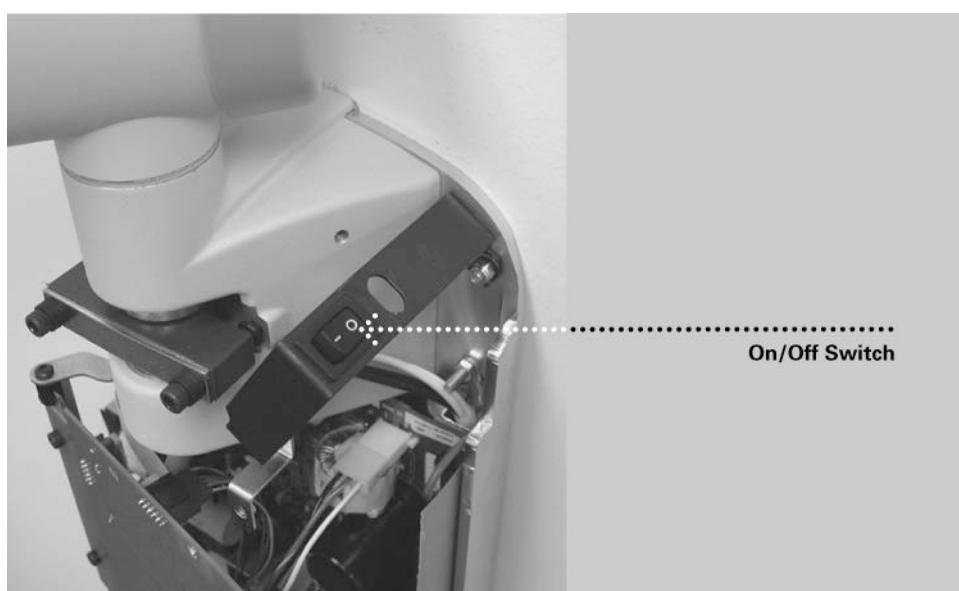

Figure 30
3. Turn on the Preva Dental X-ray System using the power switch, as shown in *Figure 29*. On the Operator Panel, *Figure 30*, you will see the product display screen showing the software version. Then the Operator Panel will display the default technique factors.